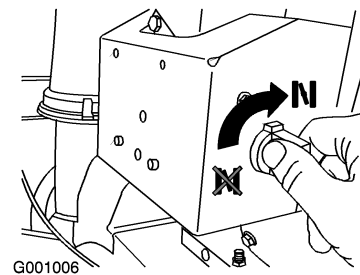

Figure 21
4. Rotate the choke to the On position (Figure 21).